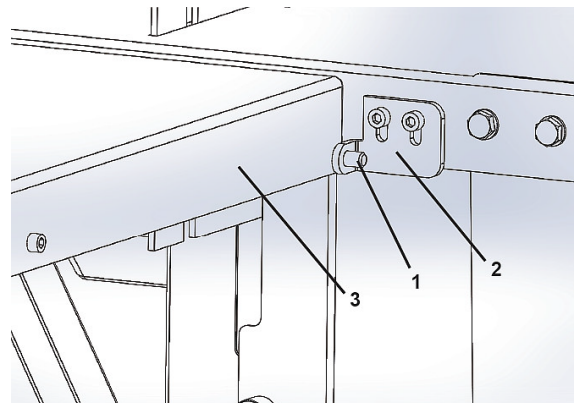

Fig. 7: Mount table extension
Step 6: Mount table extension (Pos.3, Fig.7) on both sides of the table top (Pos.2, Fig.7).